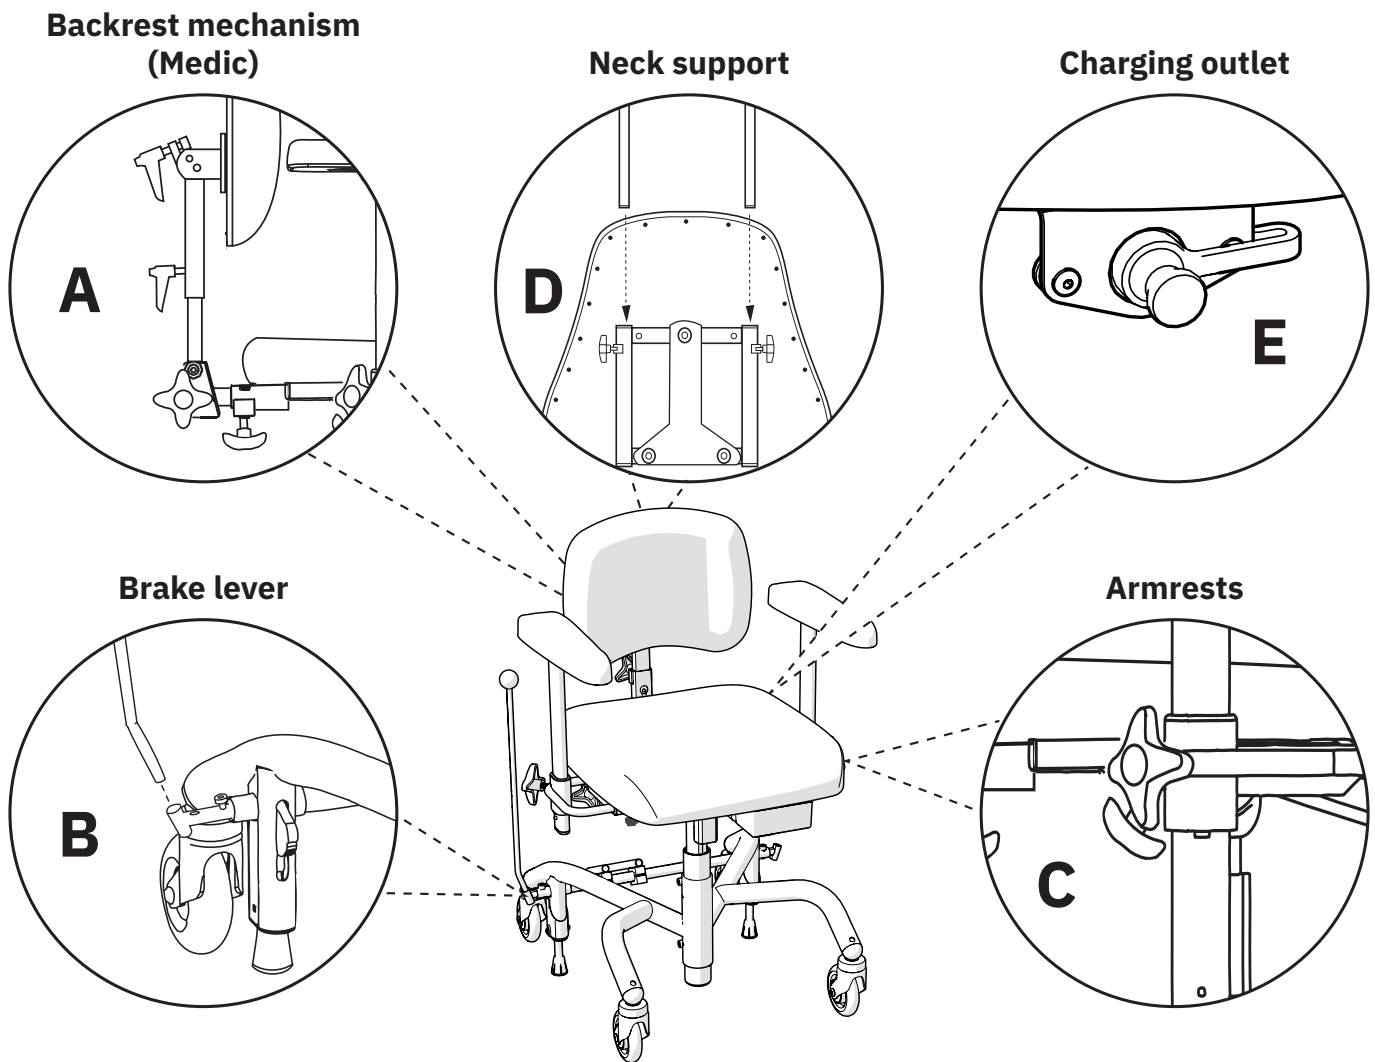

Figure 2.1. Preparations before the device is put into use.
Place the back rest support post in the back rest mechanism (B) and set the desired height level, see Figure 2.1. Tighten all levers (A). The image shows one of several back mechanisms available for Mercado Medic devices. For adjusting back supports and backrest mechanisms, see 5.6. Backrest mechanism and back support.
We recommend that the brake lever not be mounted if you intend to use the foot brake. If you intend to use the handbrake function, mount the brake lever as follows: Insert the brake lever into the brake lever bracket (A), see Figure 2.1. The brake lever can be placed on the right or left side.
Loosen the armrest controls (C) and set the desired height and width levels, see Figure 2.1. Tighten all controls (C). If the product is supplied with foldable armrests, check that the knob clicks into the locking position when the armrest is lowered. If the knob does not click in position, rotate the knob until it clicks firmly.
If the device is supplied with a neck support, insert the neck support mechanism into the backrest bracket (D) and set the desired height level, see Figure 2.1. Tighten all controls (D).
Before initial use, activate and/or charge the battery. This is done by connecting the battery charger to the device's charging outlet and to a wall outlet (E), see Figure 2.1. The charging outlet can be placed in different places on the device. The device is usually delivered with the charging outlet mounted at the rear edge under the seat.